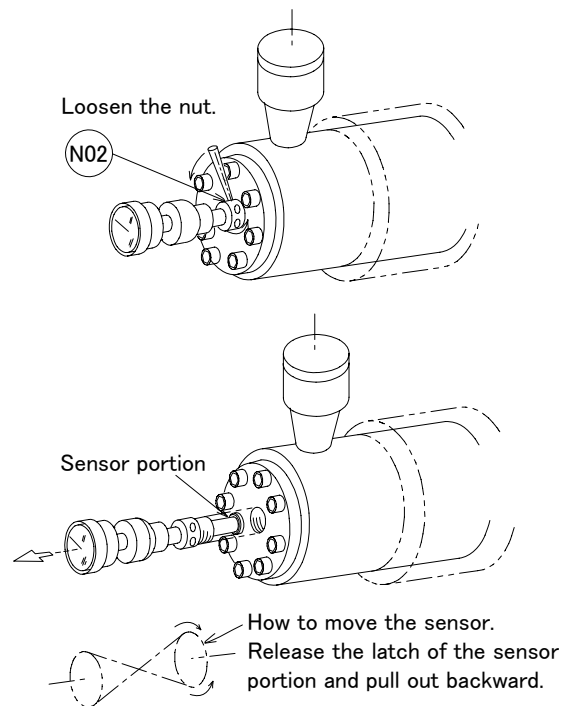

Fig.4-7 Removal of Mechanical Bearing Monitor
(7) Removal of mechanical type bearing monitor (Refer to Fig.4-7.)